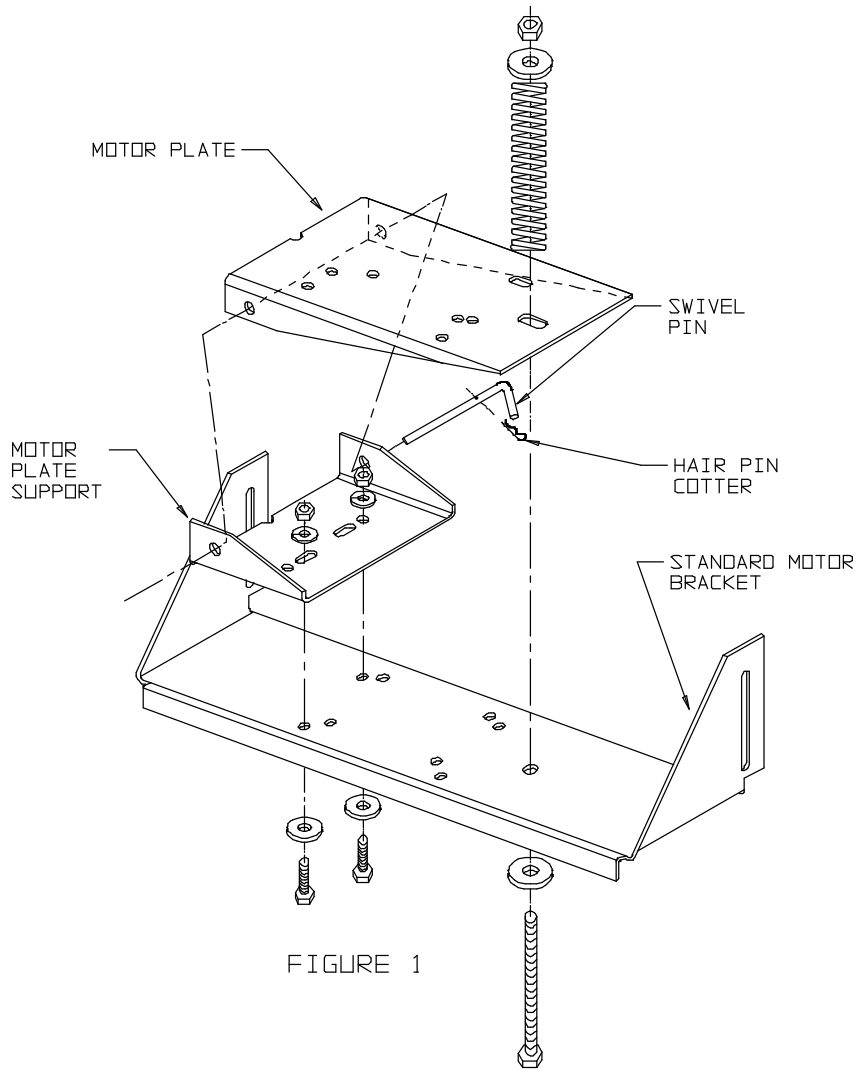
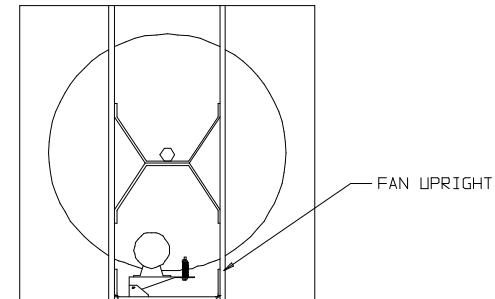

FIGURE 1
FIGURE 2
- 3) ATTACH THE STANDARD MOTOR BRACKET AT THE BOTTOM OF THE FAN USING THE TWO LOWEST MOTOR BRACKET MOUNTING HOLES IN EACH UPRIGHT. MAKE SURE THAT THE STANDARD MOTOR BRACKET IS POSITIONED AS LOW AS IT CAN BE WITHOUT GOING LOWER THAN THE BOTTOM OF THE UPRIGHTS, AS SHOWN IN FIGURE 2. NEXT, MOUNT THE ABT MOTOR PLATE SUPPORT ON THE STANDARD MOTOR BRACKET USING THE 5/16" BOLTS, LOCKWASHERS, FLATWASHERS AND NUTS SUPPLIED. SEE FIGURE 1.
- 5) INSERT THE SWIVEL PIN THROUGH THE MOTOR PLATE SUPPORT AND THE ABT MOTOR PLATE. PLACE THE HAIR PIN COTTER PIN THRU THE HOLE IN THE SWIVEL PIN INSIDE THE ABT MOTOR PLATE SUPPORT AS SHOWN IN FIGURE 1.
- 6) PUT THE FAN BELT ON THE MOTOR PULLEY. NOW, PUT THE 7 INCH LONG 3/8" BOLT, WITH A 3/8" FLATWASHER, THROUGH THE HOLE IN THE STANDARD MOTOR BRACKET AND THE SLOT IN THE ABT MOTOR PLATE. THEN, PUT THE SPRING OVER THE 7 INCH LONG BOLT FOLLOWED BY THE 3/8" FLATWASHER AND 3/8" NYLON INSERT LOCKNUT. SEE FIGURE 1. IF THE 3/8" LOCKNUT CANNOT BE THREADED ONTO THE 3/8" BOLT BECAUSE THE SPRING IS TOO LONG, THEN THE STANDARD MOTOR BRACKET WILL HAVE TO BE MOVED UPWARD UNTIL IT CAN BE. DO NOT RAISE THE STANDARD MOTOR BRACKET SO FAR THAT THE SPRING END OF THE MOTOR PLATE HITS THE STANDARD MOTOR BRACKET. NOW, TIGHTEN THE 3/8" NYLON INSERT LOCKNUT SO THAT THE SPRING IS PARTIALLY COMPRESSED AND THE FAN BELT IS PROPERLY TENSIONED.